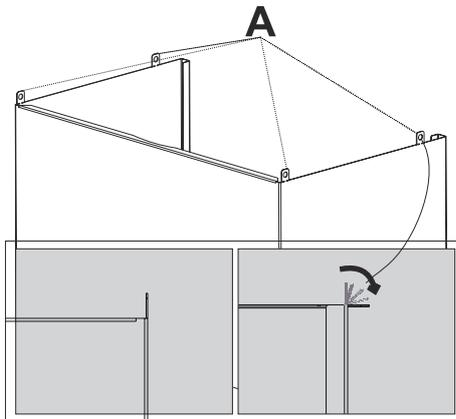

Fig. 20
- 6.** → Pull the interior flue through the exterior flue. Interior flue has 4 mounting parts on it. Bend these interior parts outwards 90° (Fig. 20).